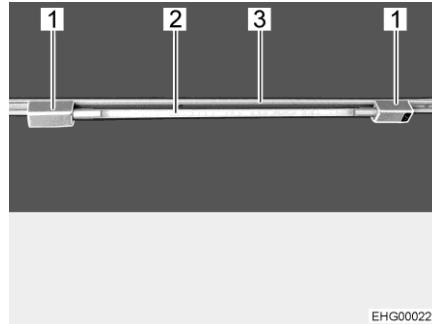

Fig. 29 Fluorescent tube
- Insert both brackets (Fig. 29,1) into the rail (Fig. 29,3). In order to do this, turn bracket through 90°.
- Plug lamp body (Fig. 29,2) into one of the brackets.
- Turn lamp body handle (Fig. 29,2) until the desired lighting effect is achieved.